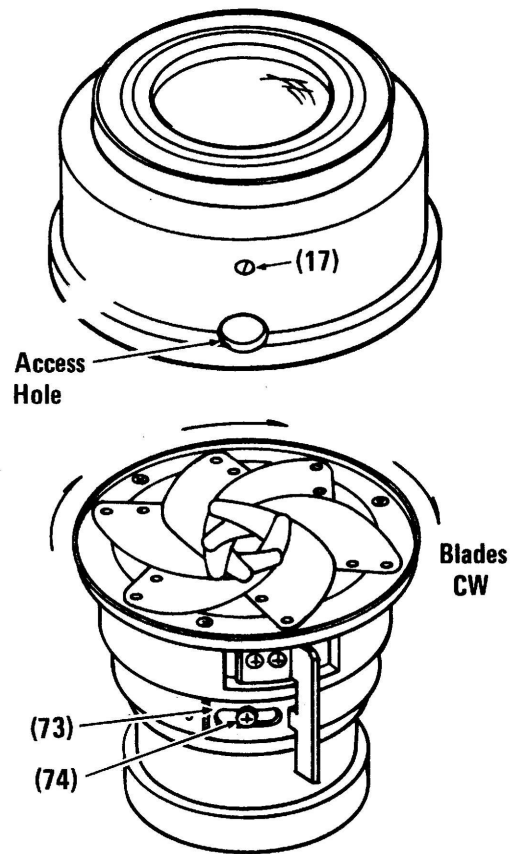
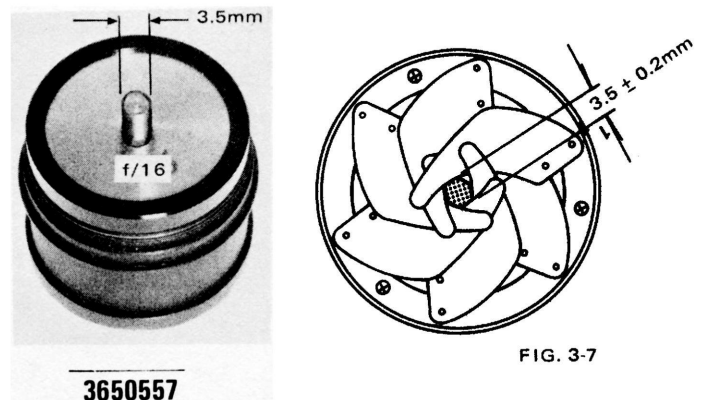

FIG. 3-6
FIG. 3-7
- 3.3** c) Remove three setscrews (28), which clamp rear diaphragm housing into front diaphragm housing.
- d) Screw fifth lens group, or Tool No. 3650557 into rear diaphragm housing. Gently work front diaphragm housing away from rear diaphragm housing. Fig. 3.6.
- a) Install diaphragm blades in a clockwise sequence. Fig. 3-6.
- c) Align blade ring limit stop access hole in front diaphragm housing with head of aperture limit plate stop screw (50); install front diaphragm housing over rear diaphragm housing, seating it firmly. Fig. 3-6.
- d) Holding parts firmly together, install the three setscrews (17) in front diaphragm housing. Thread the setscrews into the housing until they just make contact with the rear diaphragm housing.
- g) Thread Tool No. 3650557 into rear diaphragm housing; hold diaphragm lever against limit stop and measure the aperture size. At f/16, the diaphragm blades should just touch the pin of the tool. (Diameter of the opening is $3.5 \pm 0.2\text{mm}$.) Fig. 3.7. Adjust the aperture size by shifting the position of limit stop plate (49). Fig. 3-6.
- a) Install diaphragm housing assembly in the assembled lens; ensure that the housing is free to rotate by loosening screws (49). Fig. 3-7.